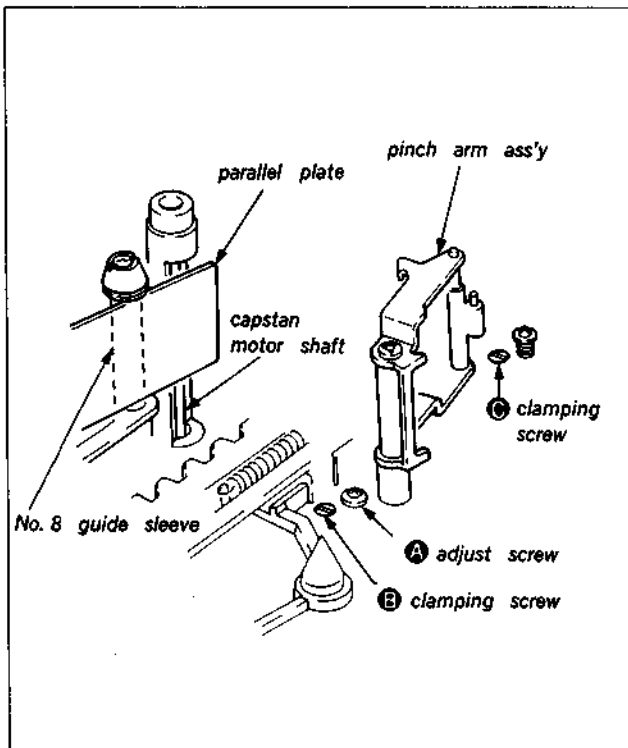

Fig. 3-10.
- 2) Apply parallel plate (SL-0657 in the list of fixtures and tools) vertically to the capstan motor shaft and the No.8 guide sleeve, as shown in Fig.3-10.
- 6) Apply the jig again as shown in Fig.3-10, and check the verticality of the capstan motor shaft. If it is not accurately vertical, repeat the processes from 3).